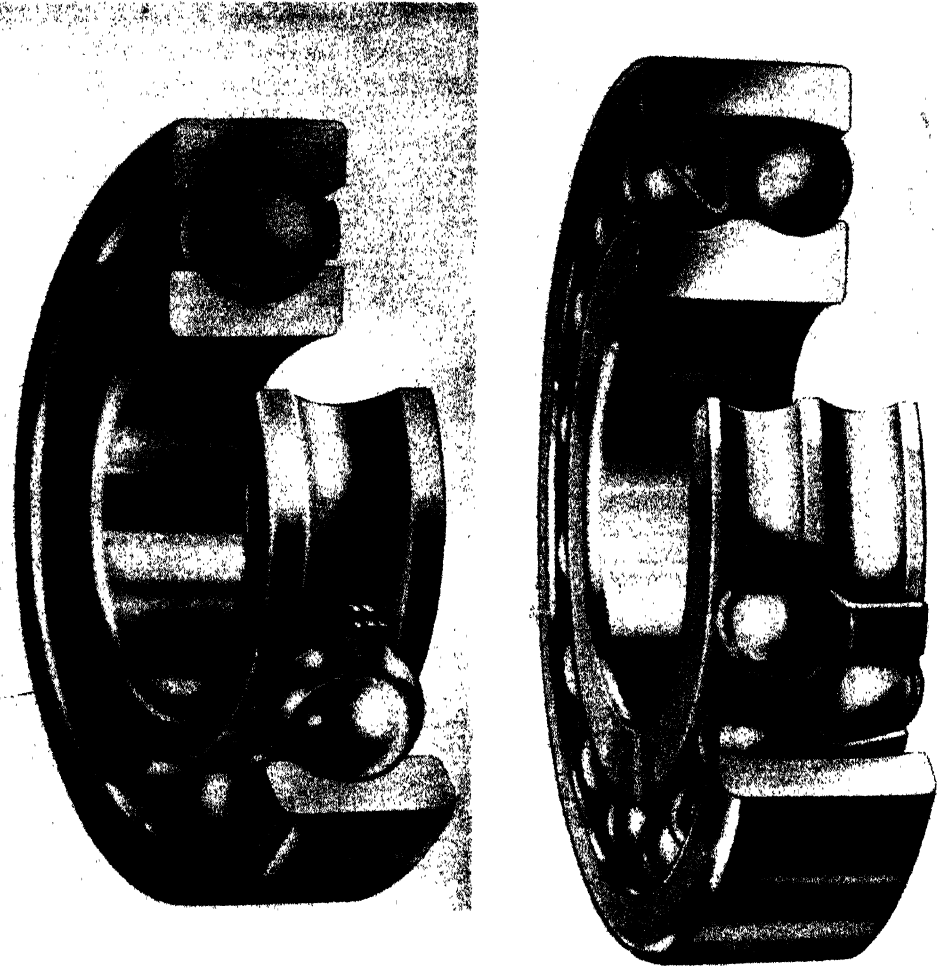

FIG. 54C. (Courtesy S. K. F. Industries, Inc.)      FIG. 54D. (Courtesy, S. K. F. Industries, Inc.)
1. The Single Row Deep Groove Ball Bearing sometimes referred to as the Conrad type. (See Fig. 54C). This bearing is designed with deep un-